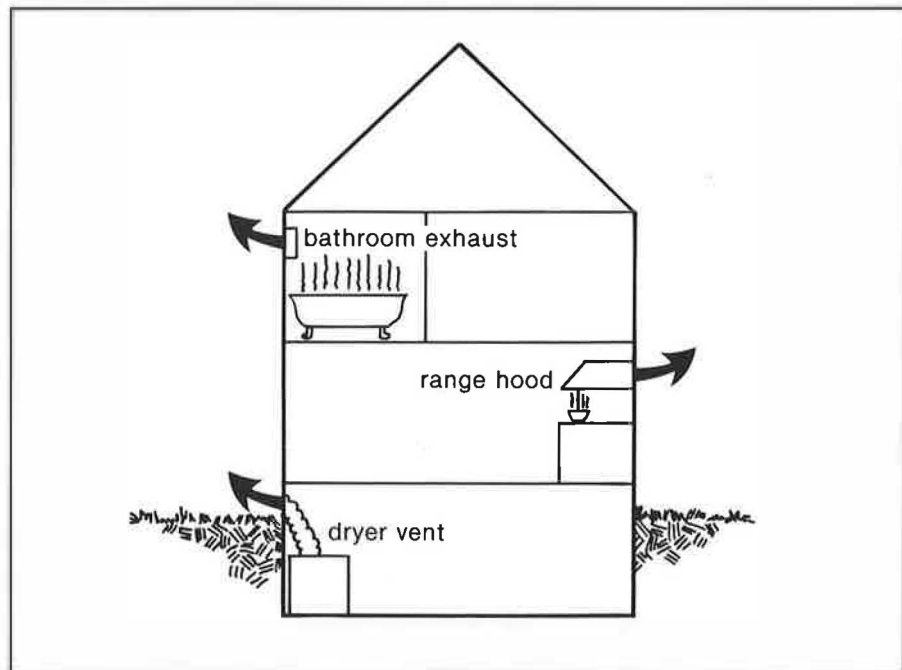
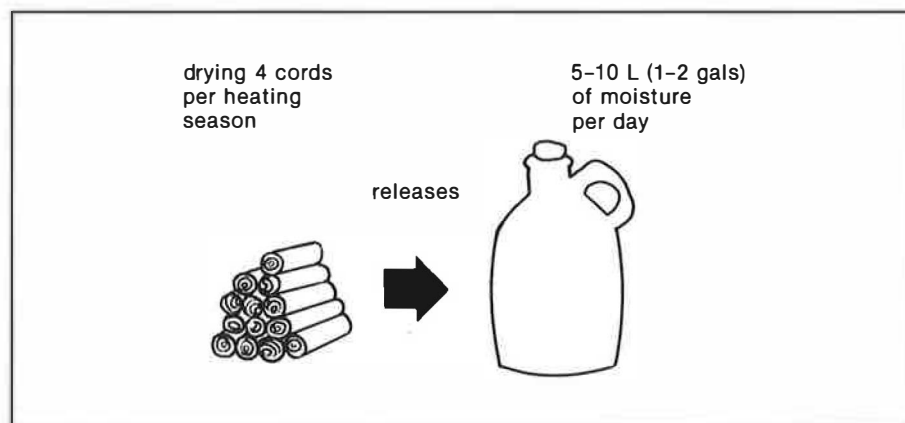

Fig. 8. Exhaust at moisture sources.
Fig. 9. Drying firewood.
- Exhaust humid air from bathrooms, kitchen and laundry. Exhaust directly at source (fig. 8) or duct to basement to a central fan. Make sure ductwork that runs through unheated areas is insulated (B).
- Install additional exhaust systems for hot tubs, whirlpools and saunas. One of these units can produce as much as 10 litres (2 gals.) of moisture per day (B).
- Caution occupants to reduce or avoid certain moisture-producing activities, such as hanging clothes to dry indoors or running humidifiers (O).
- Caution occupants not to dry firewood indoors. Four cords of green firewood per heating season can release 5 to 10 litres (1 to 2 gals.) of moisture per day. See fig. 9 (O).
- Don't install humidifiers in heating systems, or lock out the upper part of the range above 50% RH (B).